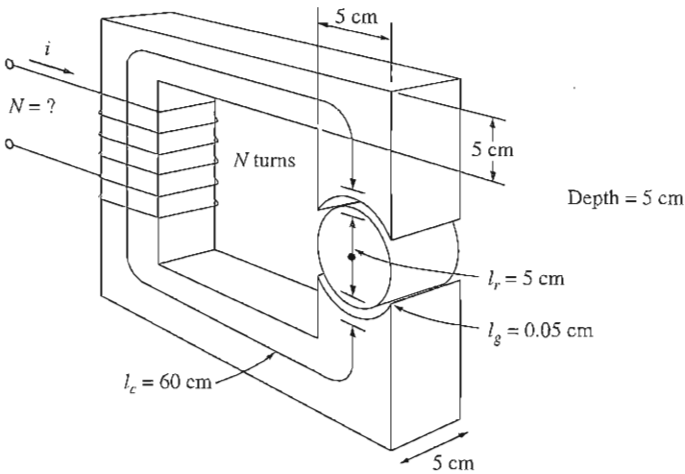

FIGURE P1-13
- 1-17. Figure P1-13 shows the core of a simple dc motor. The magnetization curve for the metal in this core is given by Figure 1-10c and d . Assume that the cross-sectional area of each air gap is 18 cm^2 and that the width of each air gap is 0.05 cm. The effective diameter of the rotor core is 5 cm.